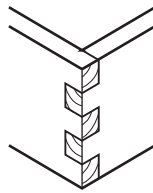

Fig. 6
- (a) Fig. 6 shows a finger (comb) joint used at corner A.